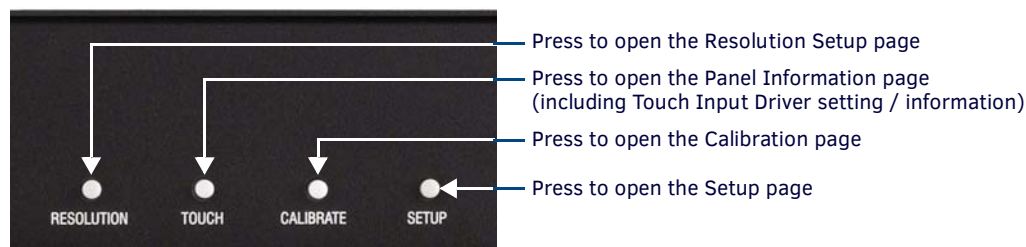

FIG. 30 Configuration Pushbuttons (front panel)
The TPI features four configuration pushbuttons (*RESOLUTION*, *TOUCH*, *CALIBRATE* and *SETUP*) on the front panel (FIG. 30). These pushbuttons provide quick access to the main configuration pages for the TPI, as described in the following sections:
3. Press the CALIBRATE button on the front panel (see FIG. 30 on page 37) to open the *Calibration* page.